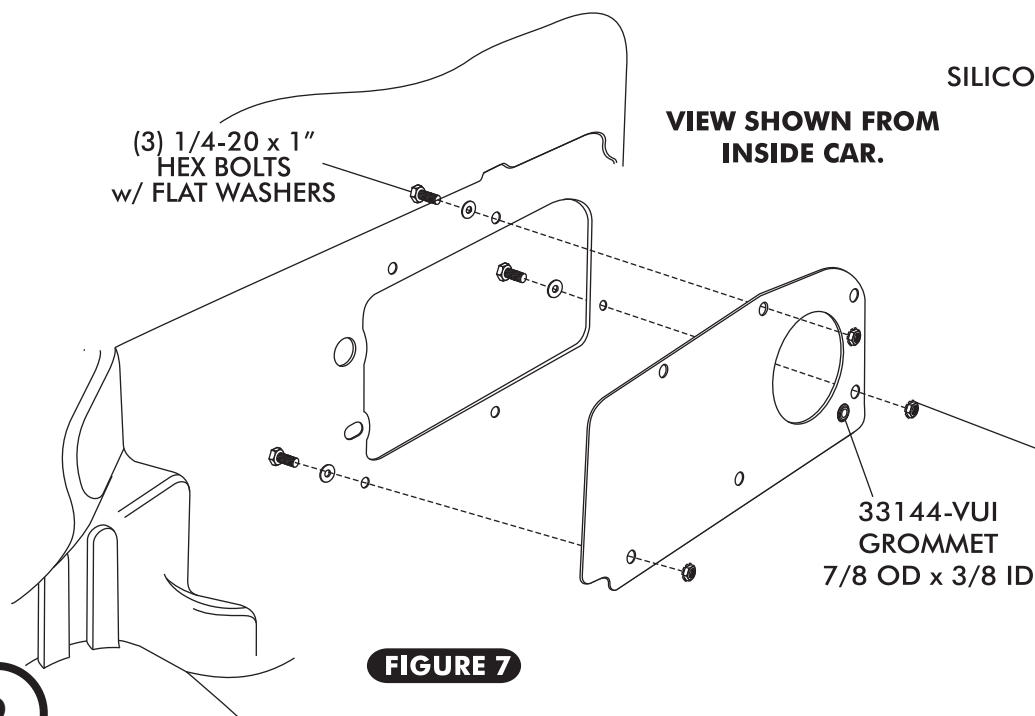

FIGURE 7
- ☐ INSTALL GROMMET ON FIREWALL COVER AS SHOWN IN FIGURE 7.
- ☐ FROM INSIDE THE CAR, INSTALL FIREWALL COVER ON FIREWALL SEE FIGURE 7. FROM THE ENGINE COMPARTMENT SECURE FIREWALL COVER TO FIREWALL USING (3) 1/4-20 x 1" HEX BOLTS WITH WASHERS AND 1/4-20 COARSE NUT w/ STARWASHER. SEE FIGURE 7.